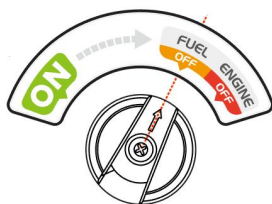

Figure 1
2. First, turn the FUEL switch to FUEL OFF (Figure 1), and the engine is to be extinguished. After the fire. Turn the ENGINE switch to ENGINE OFF (Figure 2).